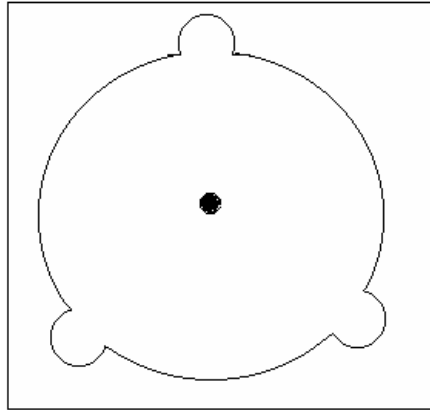

图 31
- 1) It has the drill map in embedded bracket, tip the black parts of double paper, the central of drill map have a red spot, which is central spot (reference to Figure 31)